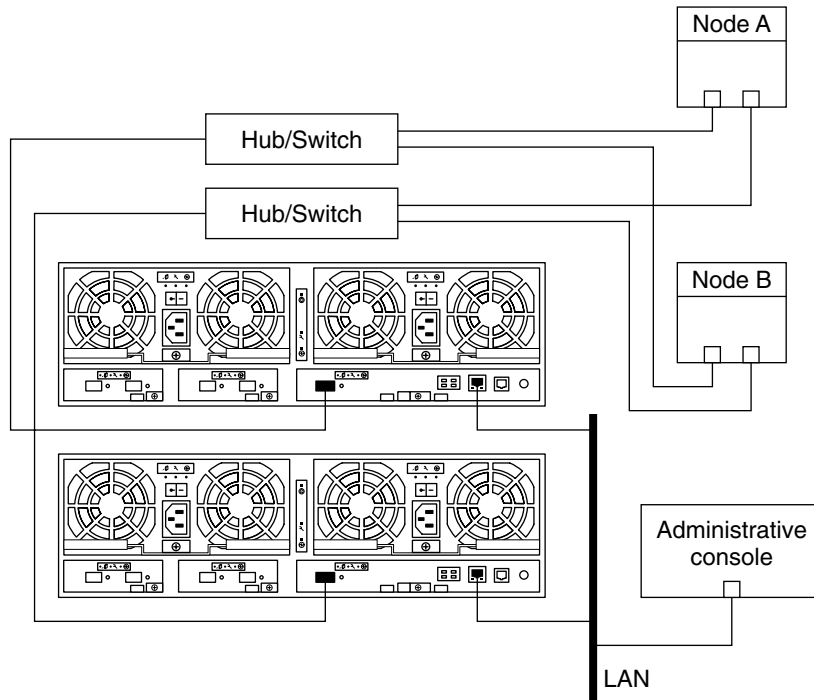

FIGURE 1-1 Installing a Single-Controller Configuration
- **If no, install the media interface adapters (MIAs) in the storage array that you are installing, as shown in Figure 1-1.**
5. If necessary, install gigabit interface converters (GBICs) or Small Form-Factor Pluggables (SFPs) in the FC hubs/switches, as shown in Figure 1-1.
6. Install fiber-optic cables between the FC hubs/switches and the storage array, as shown in Figure 1-1.
7. Install fiber-optic cables between the FC hubs/switches and the nodes, as shown in Figure 1-1.
8. Install the Ethernet cables between the storage array and the Local Area Network (LAN), as shown in Figure 1-1.
Note – Figure 1-1 shows how to cable two storage arrays to enable data sharing and host-based mirroring. This configuration prevents a single-point of failure.